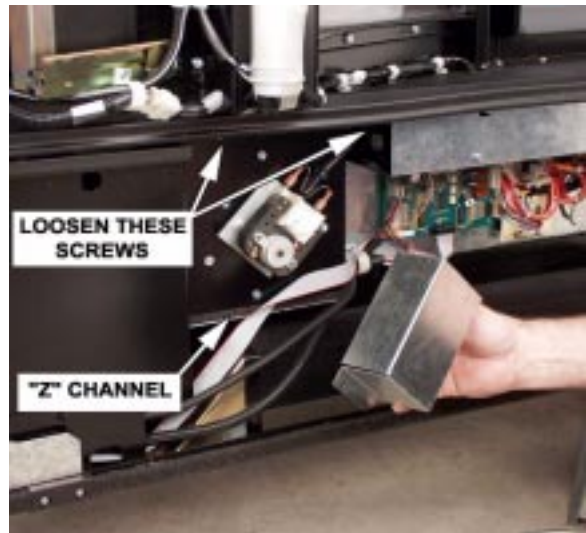

Figure 2
1. Remove two screws that secure the cover (figure 2). Remove the cover.
4. Remove the two screws up under the front lip of the duct and blower assembly (figure 2).